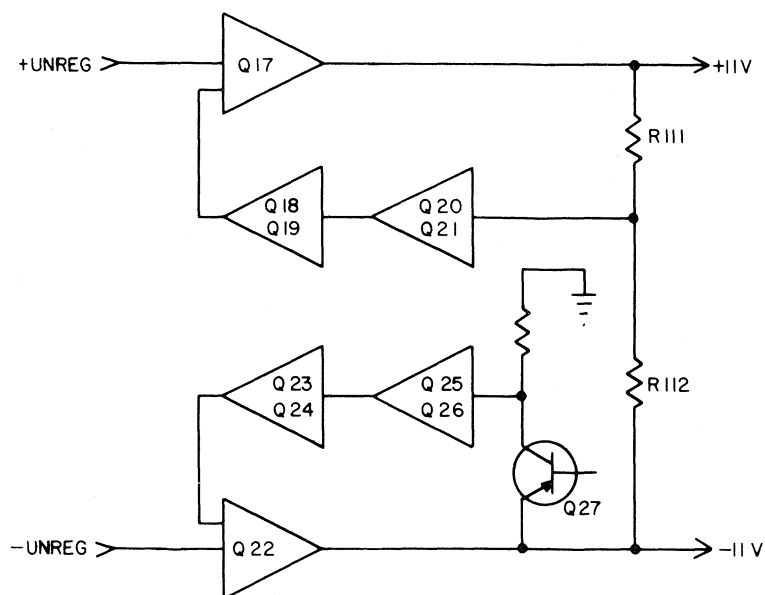

Figure 8. Power Supply
4.7 POWER SUPPLY (See Figure 8)